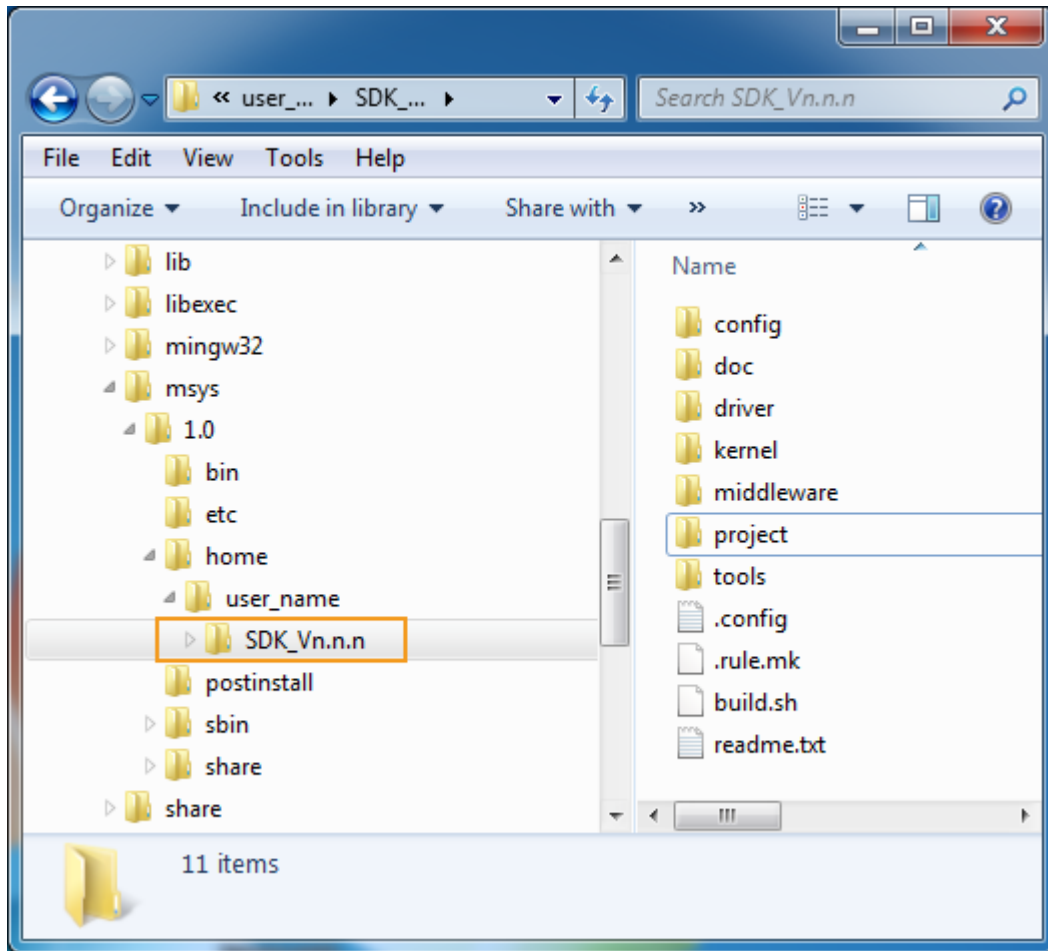

Figure 22. MinGW folder structure
- 10) Copy the SDK to MinGW `home\<user_name>` folder, as shown in Figure 22.